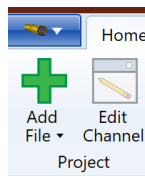
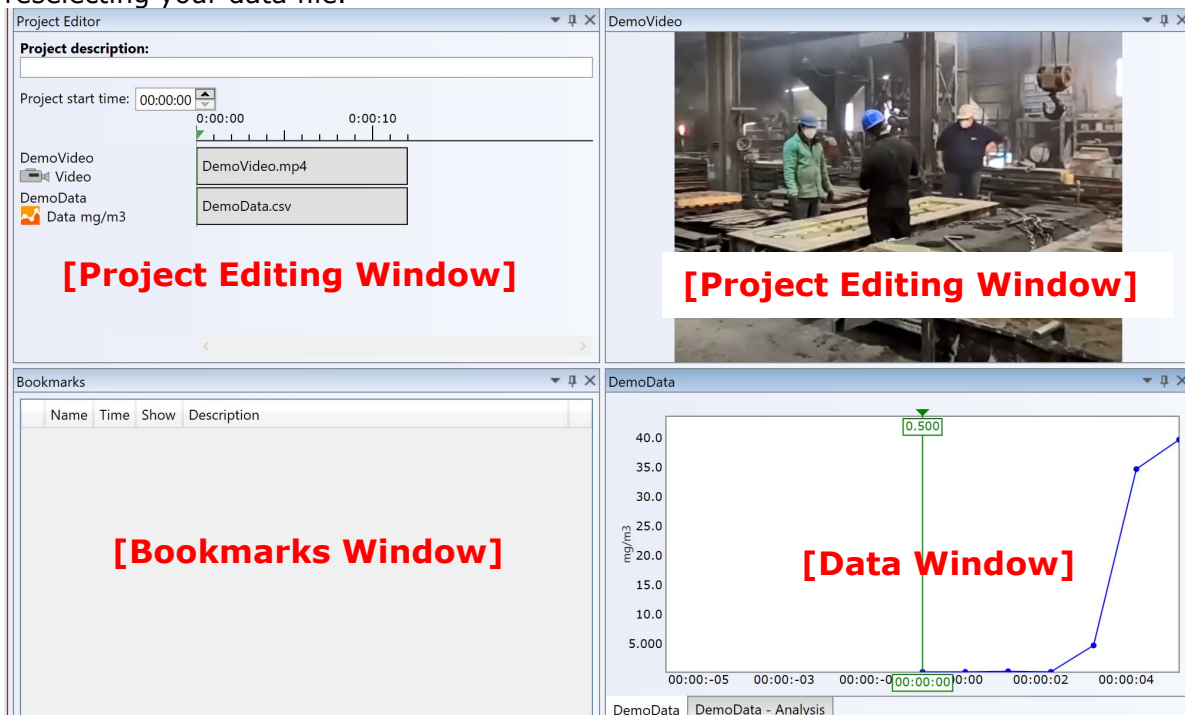

Figure 6 Add files/channels
Figure 9 Four program windows after video and data have been added.
1. Click on the "Add File" icon in the upper left corner of the program (Figure 6) and add a new channel. You can start with either a video or data channel. The manual will start with a video channel and you'll be prompted name the channel and to select a video file. This manual uses a file called **DemoVideo.mp4**.
are being interpreted correctly. After adding your video and data files, the program windows will look similar to Figure 9. Now save your project by clicking on the small telescope above "Add File" (Figure 6). You can view your product by pressing the "Play" button at the top of the screen.